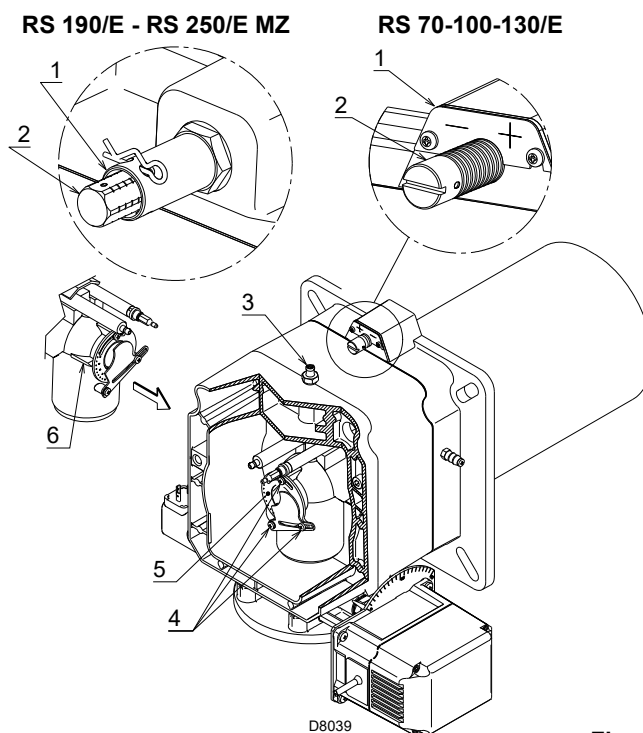

Fig. 18
- Rotate the screw 2)(Fig. 18) until the notch you have found corresponds with the front surface 1) of the flange.
To facilitate adjustment, loosen the screw 3)(Fig. 18), adjust and then lock.
- Loosen the screws 4) (Fig. 18) and turn ring 5) until the notch identified is aligned with index 6).